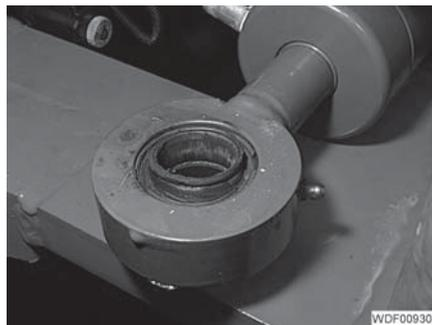

Fig. 135 Steering cylinder support surface
- Lift and guide the piston rod in the painted area (Fig. 135).